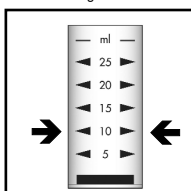

Figure 2
3. Pour 10 mL of the reacted sample from Step 2 into the empty **25 mL sample cup** (fig 2), being careful not to transfer any cadmium particles to the sample cup.